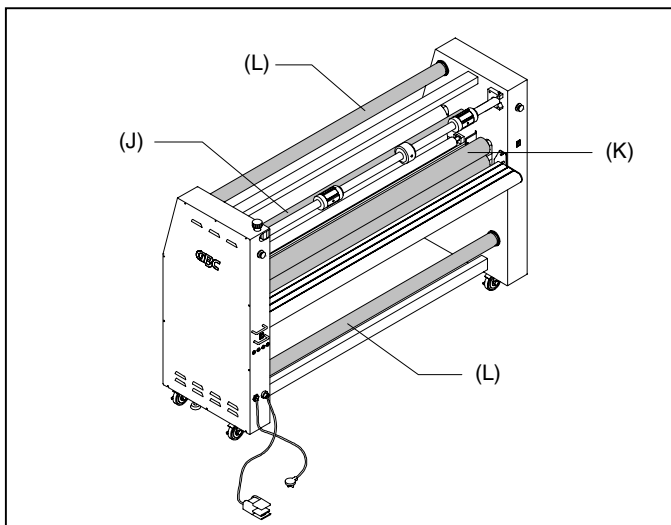

Fig. 13
J. IDLER BAR: (Figure 13) The idler bars, located near each heat roller, are used to direct the film to the heat roller nip. The bottom Idler Bar is movable to ease film loading.
K. PULL ROLLERS: (Figure 13) The pull rollers, located at the back of the laminator, are motor driven. They simultaneously pull the film and improve the quality of the laminated item.
L. REWIND TUBE: (Figure 13) The front rewind tube is used to rewind release liner while the rear bottom rewind tube is used to rewind finished product. To remove the rewind tube, push the tube against the rewind brake and remove the tube from the rewind support side.